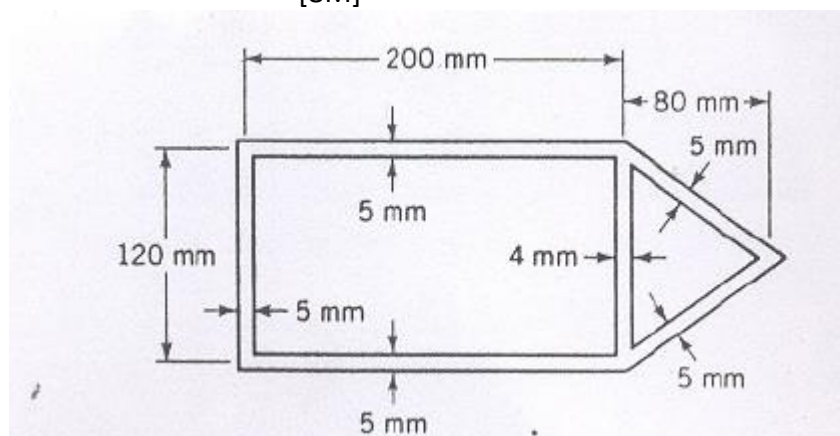

Fig.3
- b) The aluminum ($G=27.1\text{GPa}$) hollow thin walled torsion member has shown dimensions in Fig.3. Its length is 3m. If the member is subjected torque of 11KN-m, determine the maximum shear stress and angle of twist.